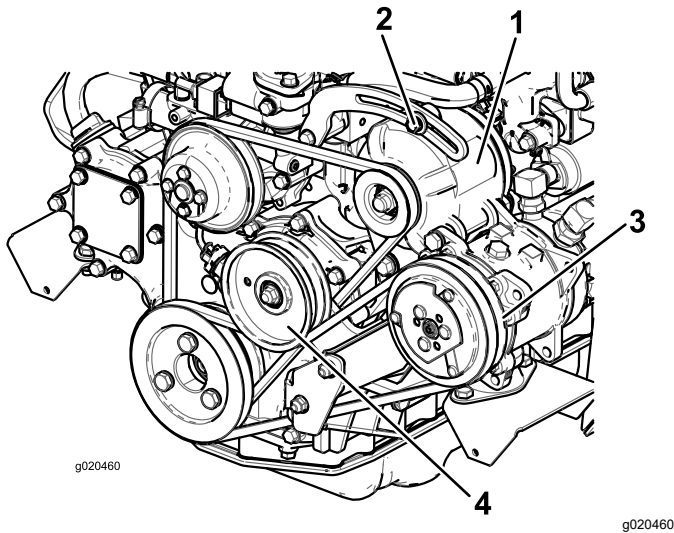

Figure 114
If the deflection is not 10 mm (3/8 inch), loosen the alternator-mounting bolts (Figure 114).
Check the condition and tension of the belt (Figure 114) after every 100 operating hours.
2. If the deflection is not 10 mm (3/8 inch), loosen the idler pulley mounting bolt (Figure 114). Increase or decrease the compressor belt tension and tighten the bolt. Check the deflection of the belt again to ensure that the tension is correct.